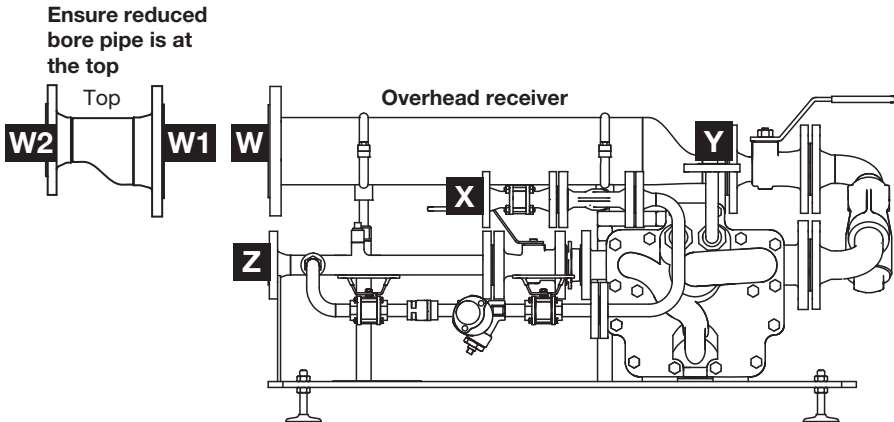

Fig. 7
The condensate inlet connection incorporates an open-ended flange at one end of the overhead receiver, which is a standard size (see Figure 7). It may be necessary to reduce the connection in size to suit the line size of the of the plant outlet. To do so requires a spool piece (pipe reducer) which is available as an optional extra (see Section 2.3).
- 4.1 After ensuring the inlet, exhaust, discharge, motive supply and exhaust lines are coupled in accordance with Figure 7, slowly open the motive supply inlet valve (Q) to supply pressure to the APT10 - PPU, APT14 - PPU and APT14 - PPU. Ensure that the exhaust/balance line is open (R) and not restricted in any way.